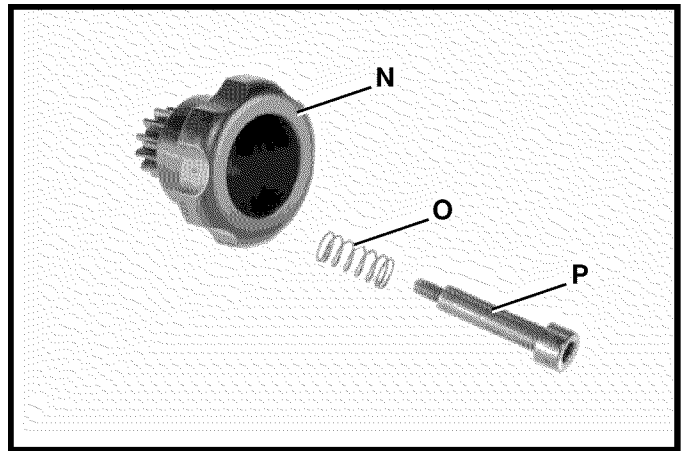

Fig. 9
5. Locate pinion knob (N) Fig. 9, spring (O), and special screw (P).